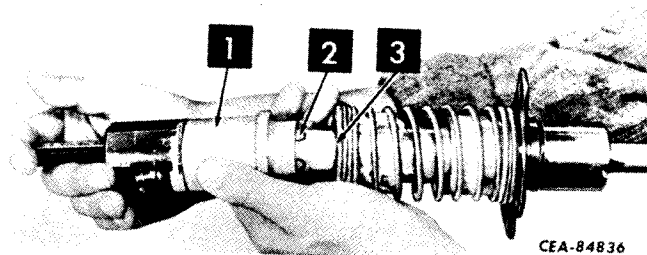

Figure 11-45
Slide the plunger cap (1, Fig. 11-45) from the plunger (3) using a punch to depress the detent cam. Use caution to prevent the loss of the detent balls (2).
Place the plunger cap (1, Fig. 11-45) over the detent assembly and firmly against the seal plate with screw holes in cap, plate and valve housing (1, Fig. 11-42) properly aligned. Install retaining screws (3) and tighten securely.